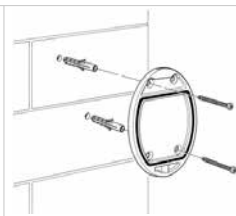

Fig. 3
- Remove the base of the digital selector and screw it to the wall Fig.3